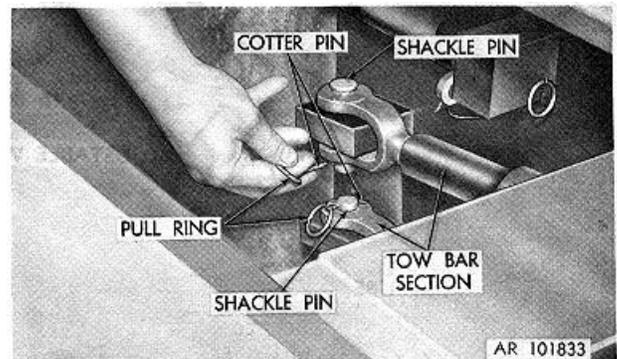

Figure 2-10. Removing cotter pin from shackle pin.
(1) Remove the two 7/16-inch bolts with attached nuts from equipment box.
(2) Loosen tow bar sections (two shackle-ended bars and one tube) from mounting bracket by removing cotter pin and shackle pin which hold them in place (fig. 2-10). Slide tow bar sections out from brackets and remove from kit. Retain cotter pin and shackle pin.